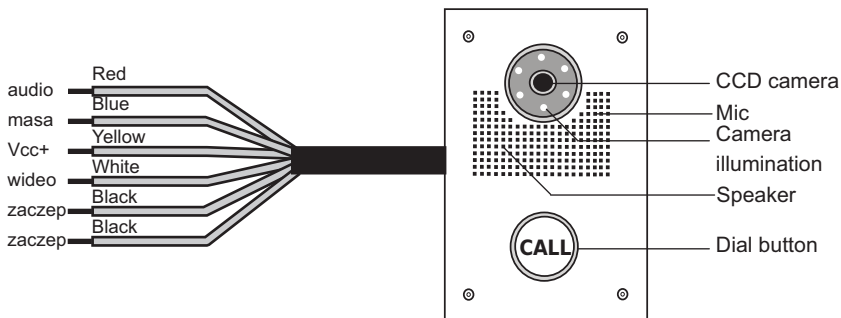

Fig 2. External panel BVC-6701
- Connect the wires as shown in the diagram. Solder the coloured wires going from the outdoor panel (see Figure 2 and 5) to the wiring system of the phone. Protect all soldered connections and isolated portions of the wires against short-circuit with a shrinking sleeve or insulating tape.